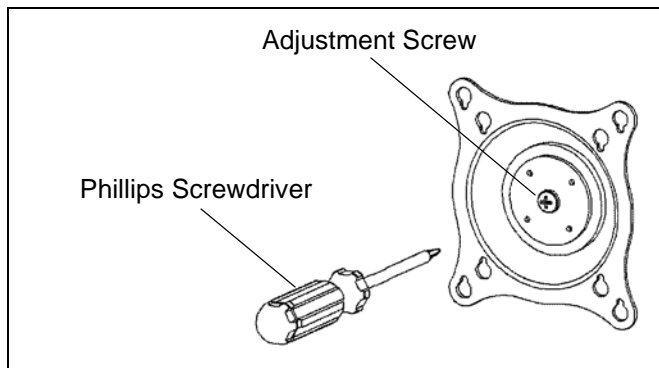

Figure 7
2. Using Phillips screwdriver, slightly loosen or tighten the adjustment screw as necessary. (See Figure 7)